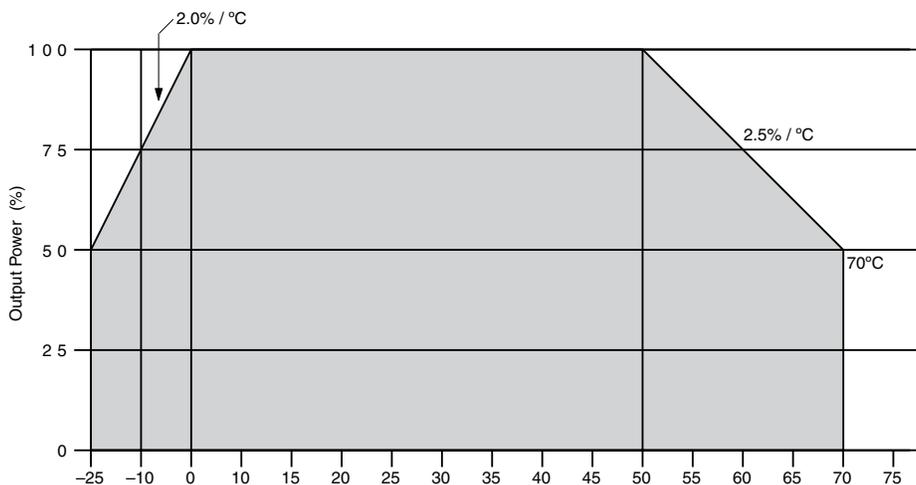

Figure 3. Temperature Derating
Operating Temperature	0 to +50°C @ full rated power; -25 to +70°C @ 50% rated power (see Figure 3)
Cooling	Free air convection with derating (see Figure 3 and Technical Notes)
9. **Temperature Derating (See Figure 3):** All DMS-PS-CM supplies are specified to operate at their full rated power over the temp range of 0°C to +50°C in still air (convection cooling) without any thermal derating. For operation over +50°C in still air, derate the output power linearly by 2.5% per °C down to 50% rated power at +70°C. To operate the units at full rated power between +50°C and +70°C, a minimum forced-airflow of 100 LFM is required. For operation below 0°C, derate the output power linearly by 2.0% per °C down to 50% rated power at -25°C. Unless forced air with the velocity noted above is employed, DMS-PS-CM supplies should never be mounted upside down (terminal blocks facing down). Also, always provide sufficient clearances in order to ensure adequate airflow around the supply.